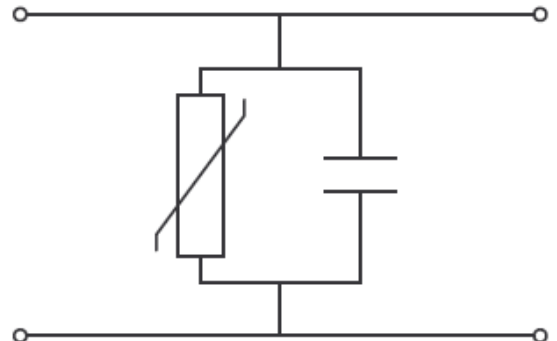

Fig. 3 MOV C filter
1. A simple low capacitance C filter consisting solely of the MOV: Fig. 3.